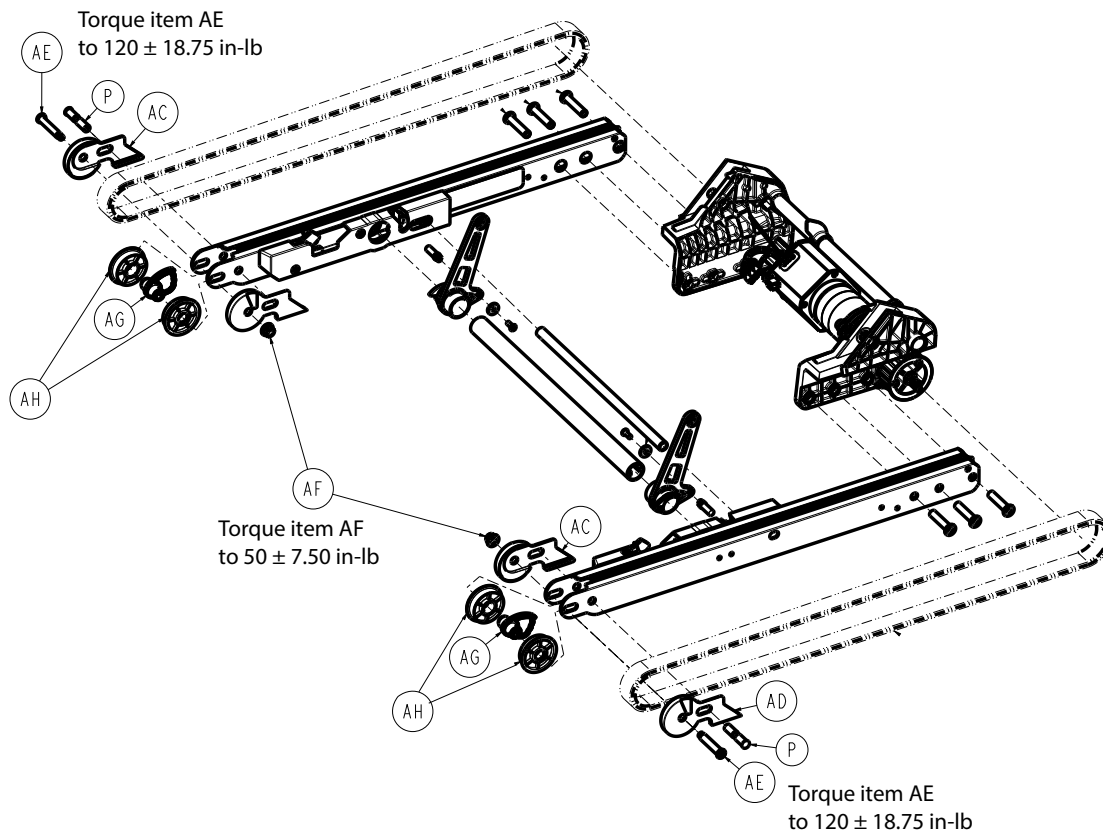

Figure 21 –
6. Using a 1/2" combination wrench, loosen the flanged Nylock hex nut (AF) that secures the track roller (AH) to the track assembly (Figure 21). Do not remove the nut.
7. Using a 7/32" hex driver and a 3/8" drive ratchet, turn the track tension bolt (AE) to loosen the track tension cam (AG) (Figure 21).
- Use one hand to hold the flanged Nylock hex nut (AF) in the upright assembly (Figure 21).
- Using a torque wrench, torque the button head cap screws (A) to 75 ± 11.25 in-lb when you reinstall.